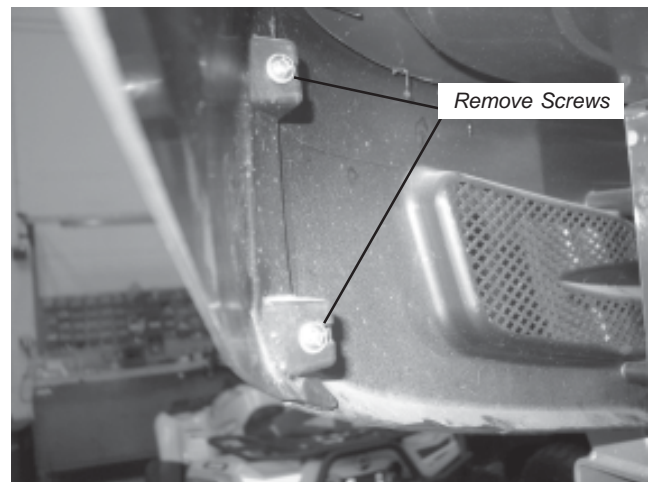

Figure 1
1. Remove front grill from vehicle to allow winch mount to be installed. First, remove screws on both sides on back side of grill as shown in Figure 1, using a Phillips screwdriver.